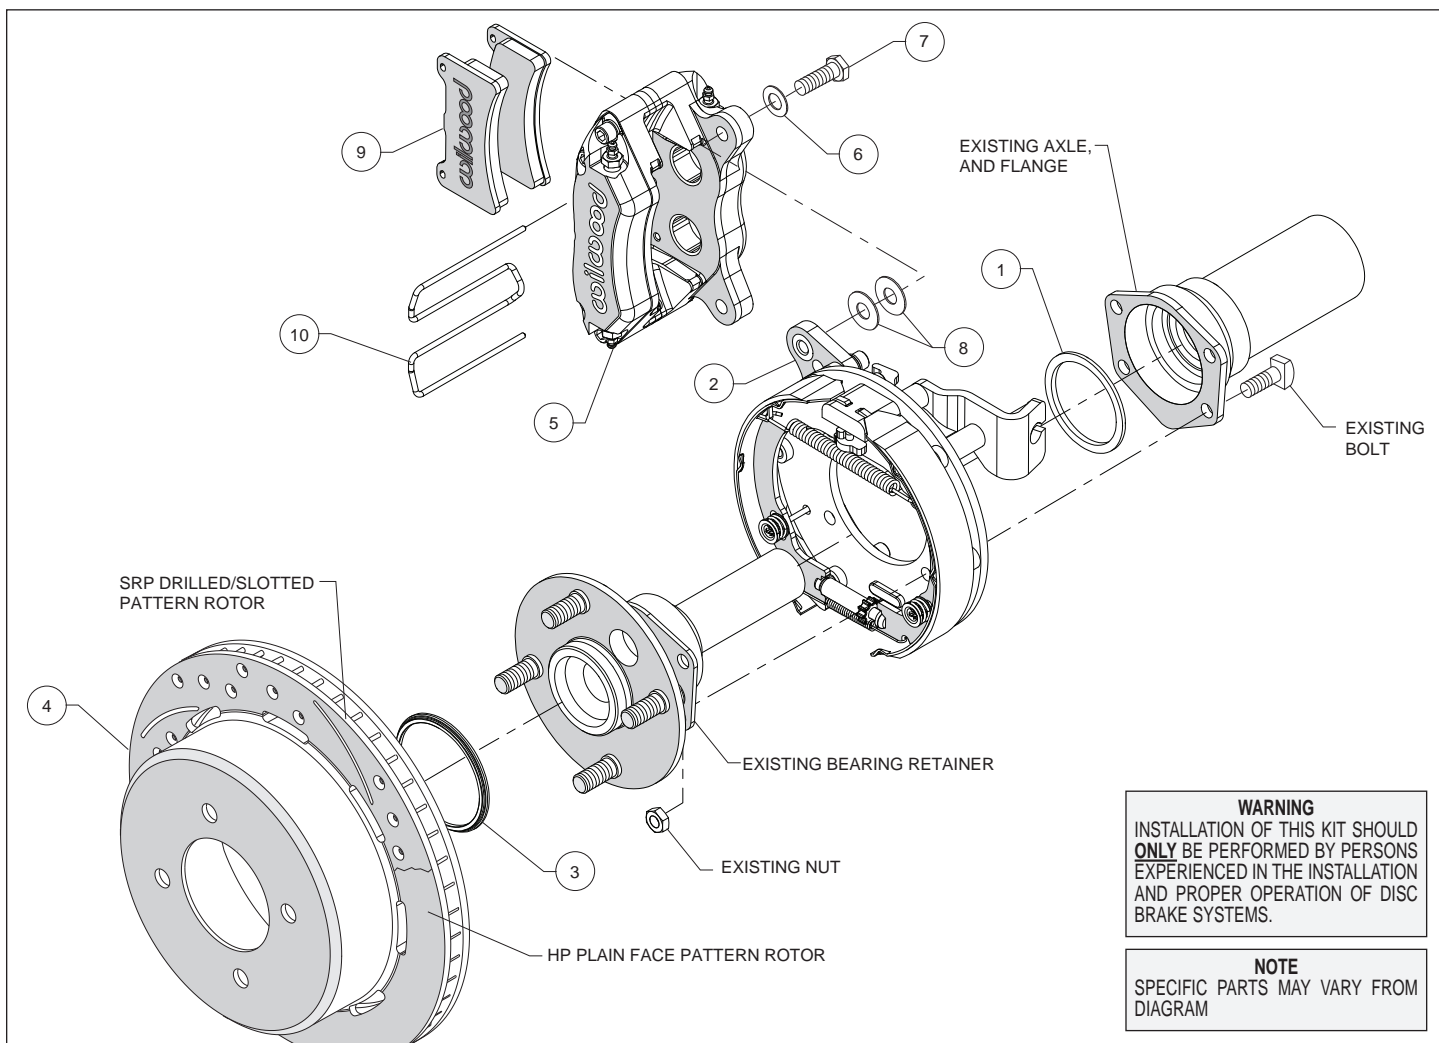
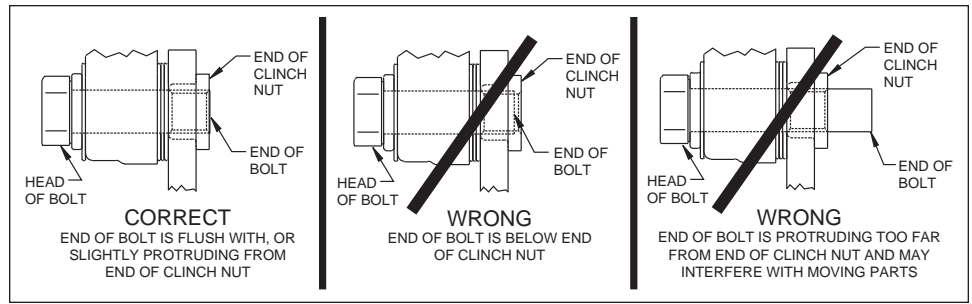

Figure 1. Typical Installation Configuration
Figure 4. Clinch Nut Engagement Diagram
Assembly Instructions (numbers in parenthesis refer to the parts list, and Figure 1 on the preceding pages): **CAUTION:** All mounting bolts must fully engage clinch nuts. Be sure to check that all bolts are either flush or protruding through flanged side of clinch nut after shimming, Figure 4.
- With the bearing retainer in place, slide the caliper mounting bracket assembly (2) onto the axle as shown in Figure 1 and Photo 1. Install axle shim (1) over axle shaft with bearing chamfer facing toward the axle housing, as shown in Photo 2.
- Slide the axle and parking brake assembly into the axle housing ensuring that the backing plate is flush with the axle housing flange and the bearing retainer is flush with the backing plate. Secure retainer and bracket assembly to the axle housing flange using the Original Equipment Manufacturer (OEM) bolts and nuts, Figure 1. Apply red *Loctite*® 271 to the OEM bolt threads and torque to OEM specifications.
- Slide the rotor registration adapter (3) onto the axle register on the axle flange with the smaller O.D. facing toward the rotor/hat (4), Photo 3. Align the hole pattern in the rotor/hat with the stud pattern on the axle flange and slide into place, Figure 1 and Photo 4. **NOTE:** The rotor/hat must fit flush against the axle flange or excessive rotor run out may result. Install three lug nuts (finger tight) to keep the rotor/hat assembly in place while continuing with the installation. **NOTE:** Some OEM and after market axles come with stud sizes larger than 0.50" diameter. Verify stud size and have a qualified machine shop drill the bolt circle of the hat/rotor to the correct stud size, if necessary.
•**NOTE:** Please reference the caution statement at the beginning of the assembly instructions. Mount the caliper (5) onto the caliper mounting bracket (2) using bolts (7) and washers (6), as shown in Figure 1. Initially place two .035" thick shims (8) on each bolt between the caliper and the bracket, Photo 5. Temporarily tighten the mounting bolts and view the rotor (4) through the top opening of the caliper. The rotor should be centered in the caliper, Photo 6. If not, adjust by adding or subtracting shims between the bracket and the caliper. Always use the same amount of shims on each of the two mounting bolts. **NOTE:** The end of each bolt must be flush with or slightly protruding from the head of the clinch nut, as shown in Figure 4. If necessary place spare shims between washer (6) and caliper mounting ear to achieve the proper clinch nut engagement. Once the caliper alignment and clinch nut engagement are correct, remove the bolts one at a time, apply red *Loctite*® 271 to bolt threads, and torque to 40 ft-lb.
•Install the disc brake pads (9) into the caliper, with the friction material facing the rotor (4), and secure in place using pad clip retainer (10), Photo 7.
•**NOTE:** Clevis and cable kits which attach to the parking brake assembly are not included in the Wilwood parking brake kit. Wilwood offers a generic style parking brake cable kit, P/N 330-9371 for this application which can be ordered separately from your local Wilwood dealer or by calling Wilwood customer service at (805) 388-1188.
•Before final installation of the wheel, install three lug nuts, remove the rubber grommet in the bracket kit assembly (2) and adjust the parking brake shoes outward (using a drum shoe adjustment tool available at your local auto parts store) while spinning the rotor/hat (4) until a slight drag is felt against the hat/drum. Replace the rubber grommet when finished.